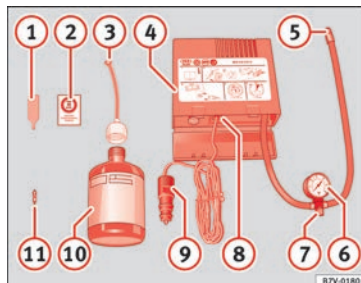

Fig. 80 Standard representation: contents of the anti-puncture kit.
» **Fig. 80:**
Screw in the inflator tube » Fig. 80 ⑤ again and check the pressure on the gauge ⑥.